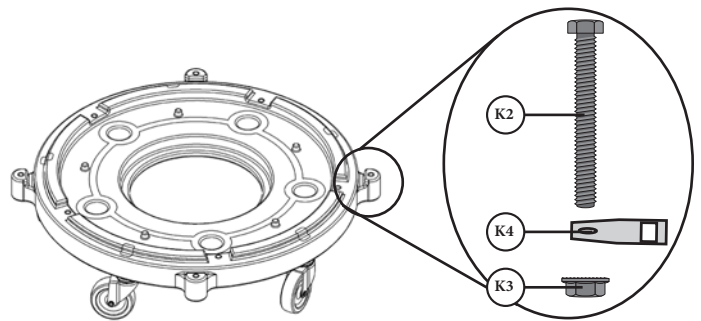

FIG. 17
Install Tether Strap Plate (K4) with Hex Head Bolt (K2) and Square Nut (K3) in the front of the Molded Drum Dolly (L) [FIG. 17].